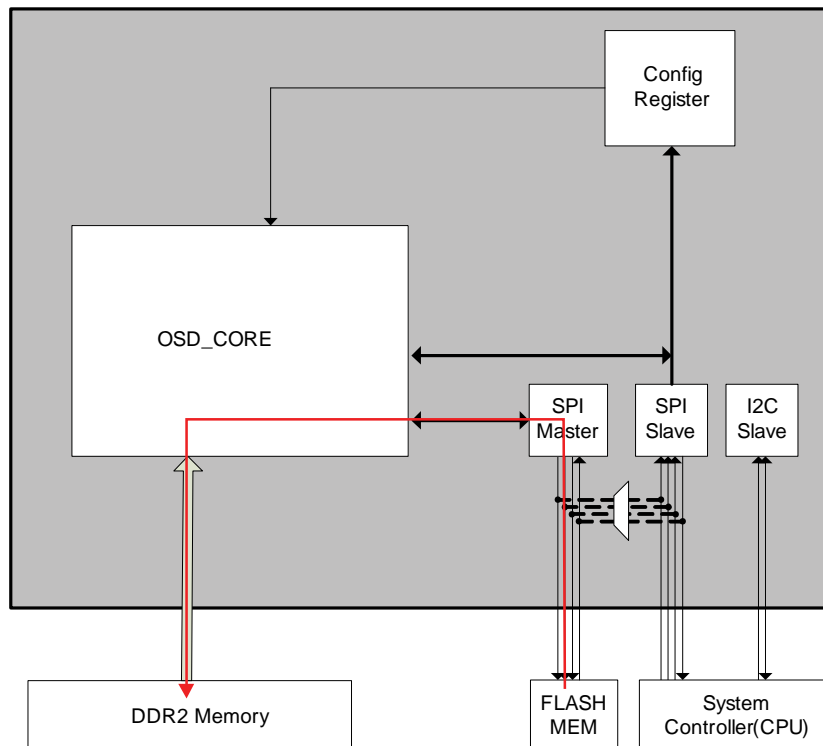

Figure 86: Data Loaded from SPI Flash Through ADV8005 SPI Master Interface
- The ADV8005 SPI master interface (serial port 2) can pull in resource data to DDR2 memory from an external SPI flash memory, as shown in Figure 86.